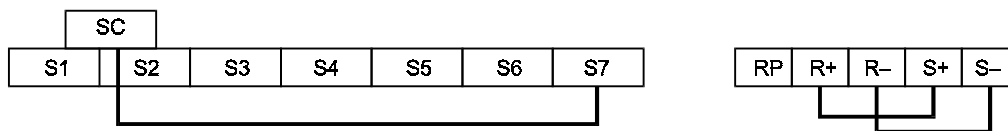

Fig 6.63 Communication Terminals Wiring for Self-Diagnosis
3. Perform the wiring according to *Fig 6.63*.